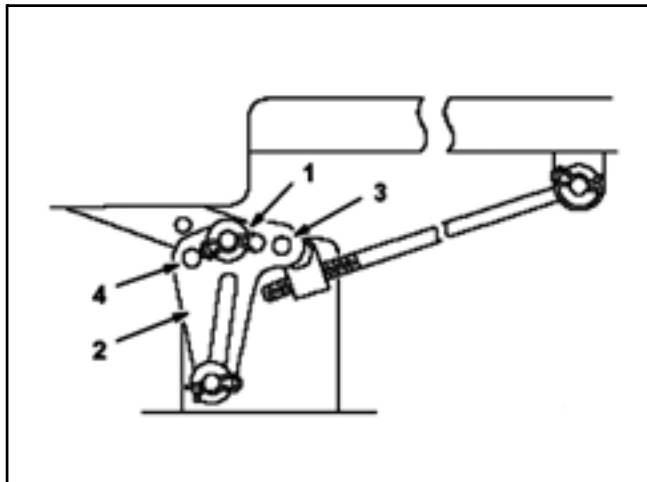

Figure 104
6. Remove the hairpin cotter and washer from the leveling bracket (Figure 104).
7. To level the blade(s), reposition the leveling bracket(s) in a different hole and install the washer and hairpin cotter. (Figure 104). A front hole lowers the blade height and a rear hole raises its height. Adjust both sides as required.